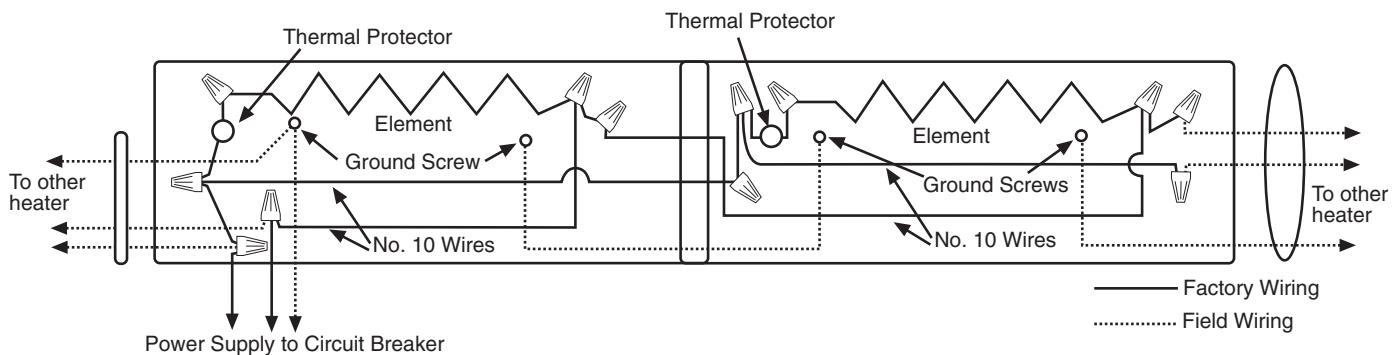

Fig. 8
2. Wiring procedures and connections must be in accordance with the National Electrical Code (NEC) and local codes. Refer to Wiring Diagram on heater and Figure 8. Make sure all electrical connections are tight to prevent possible over-heating. Use Copper Supply Wire Only.
9. Following the wiring diagram secured to the heater, make the electrical connections. Refer to Fig. 8 to connect the other heaters in parallel. Grounding of the other heaters is accomplished by connecting a jumper wire (not supplied) between the two adjacent heaters.
**IMPORTANT NOTE:** These heaters are provided with a built-in safety limit (Thermal Protector— see Fig. 8) to automatically turn off the heater if it is blocked or otherwise overheats due to an abnormal condition. The heaters should not be cycling off on this safety control during normal use. If this is occurring, check heater installation to assure it has adequate clearances and the free airflow around heater is not restricted. If heater continues to cycle on this safety control, discontinue using until it can be inspected and/or repaired by a qualified electrician.